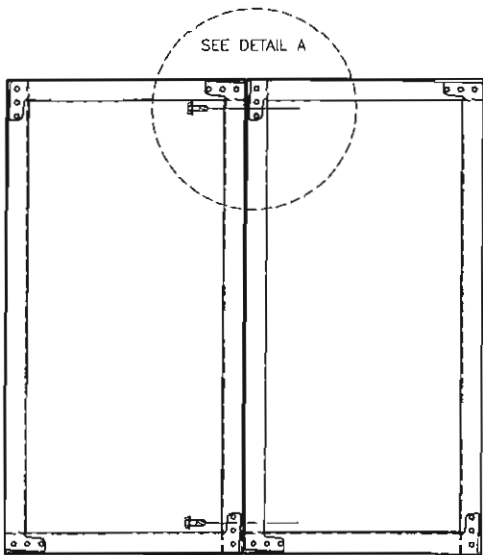

Figure 1
2. If more than two sections wide, unit ships as a multiple section assembly and a single section together. The single section is joined to the side of the multiple section where the jackshaft extends past the frame 4 inches (see Figure 1 & 2).
7. If no holes are present in frame, drill ¼ inch (6mm) diameter holes at 6 inch (52mm) centers and fasten frames together with ¼ inch (6mm) #20 (.03mm) bolts and nuts (see Figure 1 & 2).